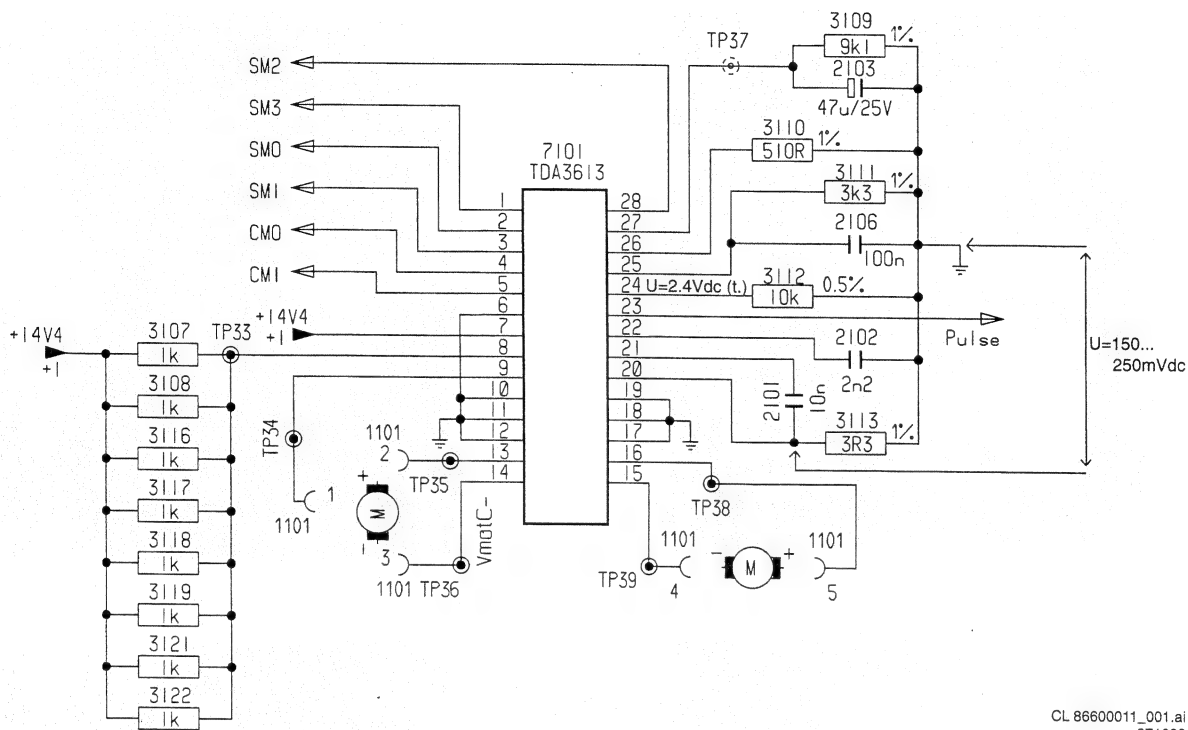
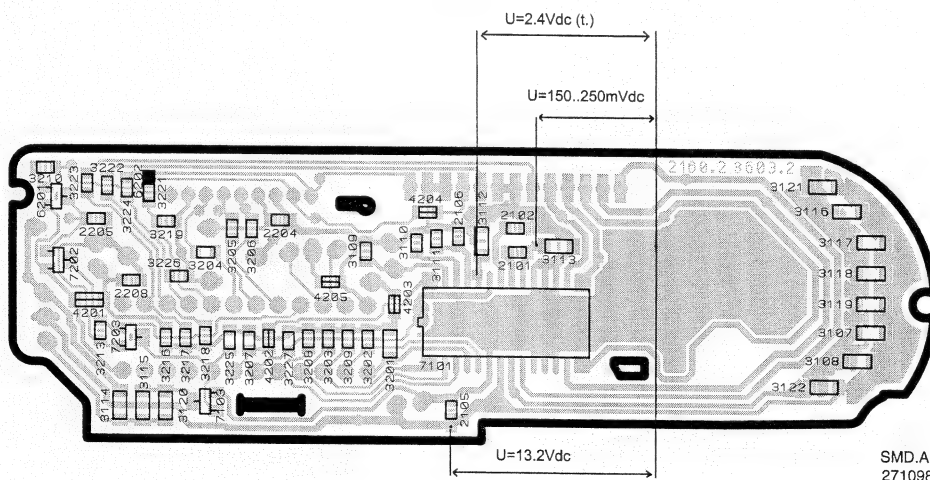

Figure 7
Figure 9
- **Note:** refer to figures 7 – 9.
- First check the voltage at TP3 (collector of pos. 7102). It must be equal to the normal car voltage (nom. 13.2VDC). If this value is not met, check pos. 7102 / 7103 and replace if necessary.
- Measure the voltage between GND and pin 20 of pos. 7101, as indicated in figure 9. It must be 150 ... 250mVDC and hence  $I_{R3113}$  must have a value between approx. 45 .. 76mA.
- Visually check resistors pos. 3109, 3110 and 3112. The value resp. must be: 9k1, 510 $\Omega$  and 10k.